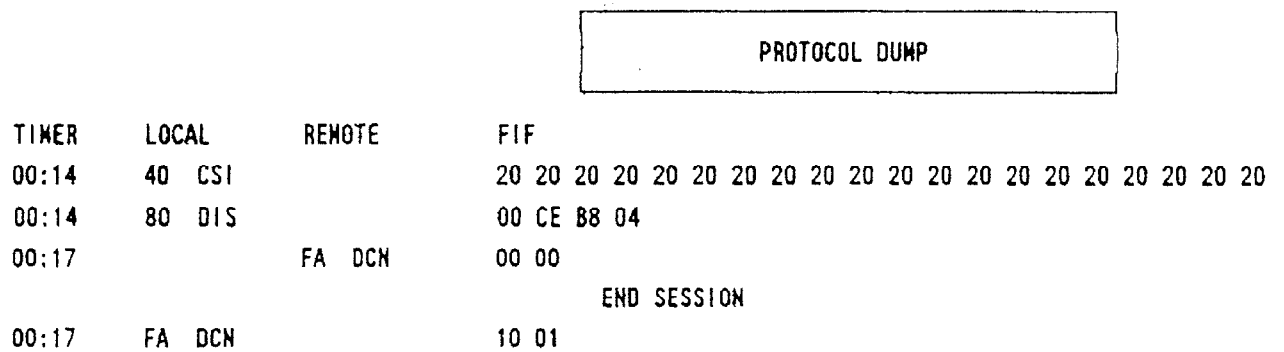

Fig. 5-1
c) Make sure that there is paper in the ASF and then press $\diamond$ : the data shown in fig. 5-1 will be printed and then the facsimile machine will return to standby mode.